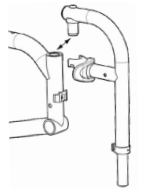

Fig. 4a
- Push the release locking lever (1) (Fig. 4a) inward or outward and maintain that position so the front riggings can rotate freely.